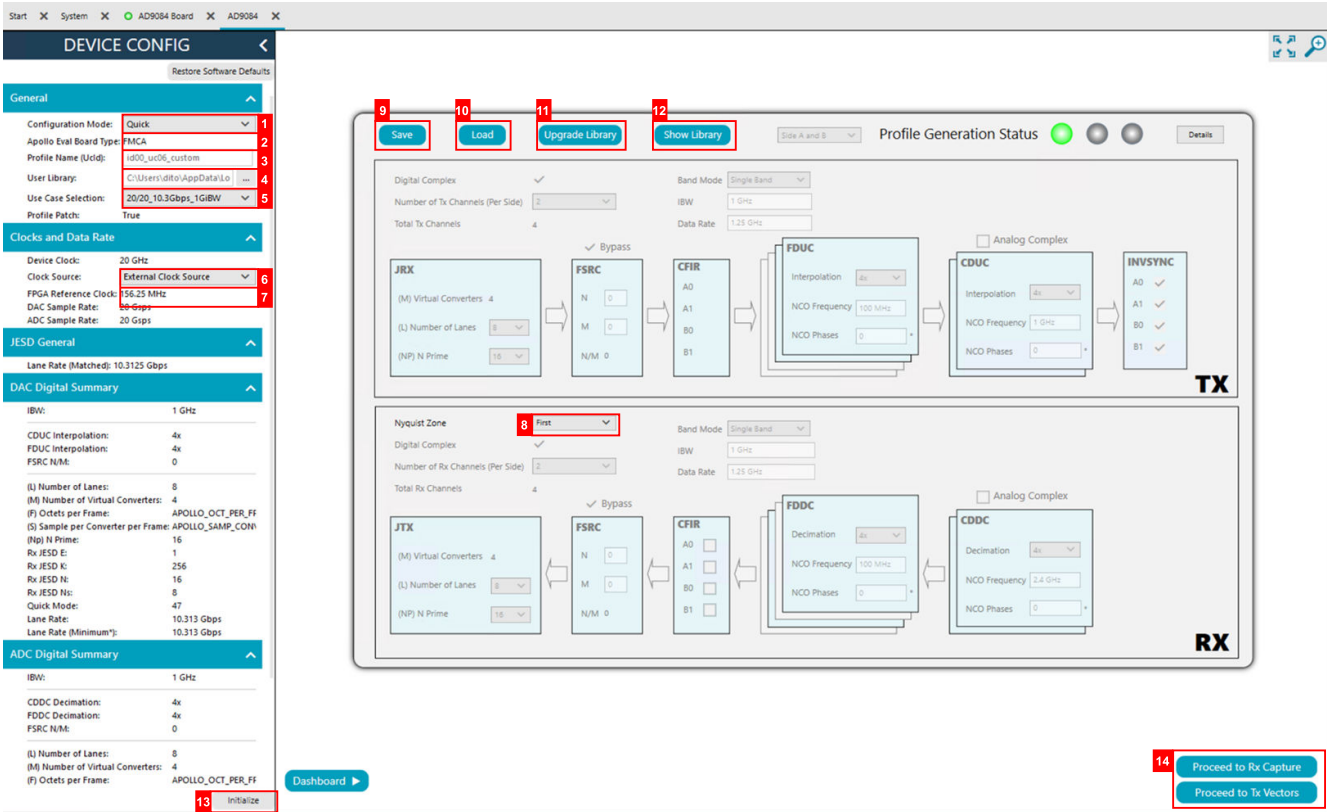
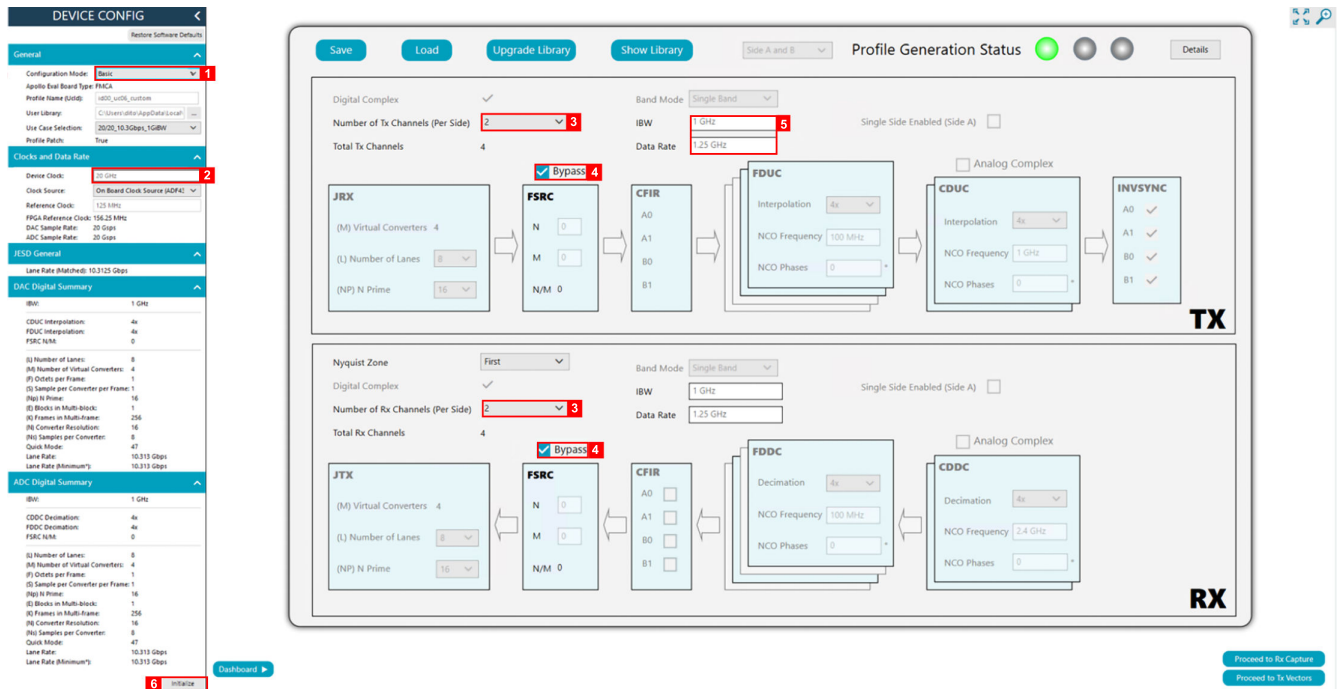
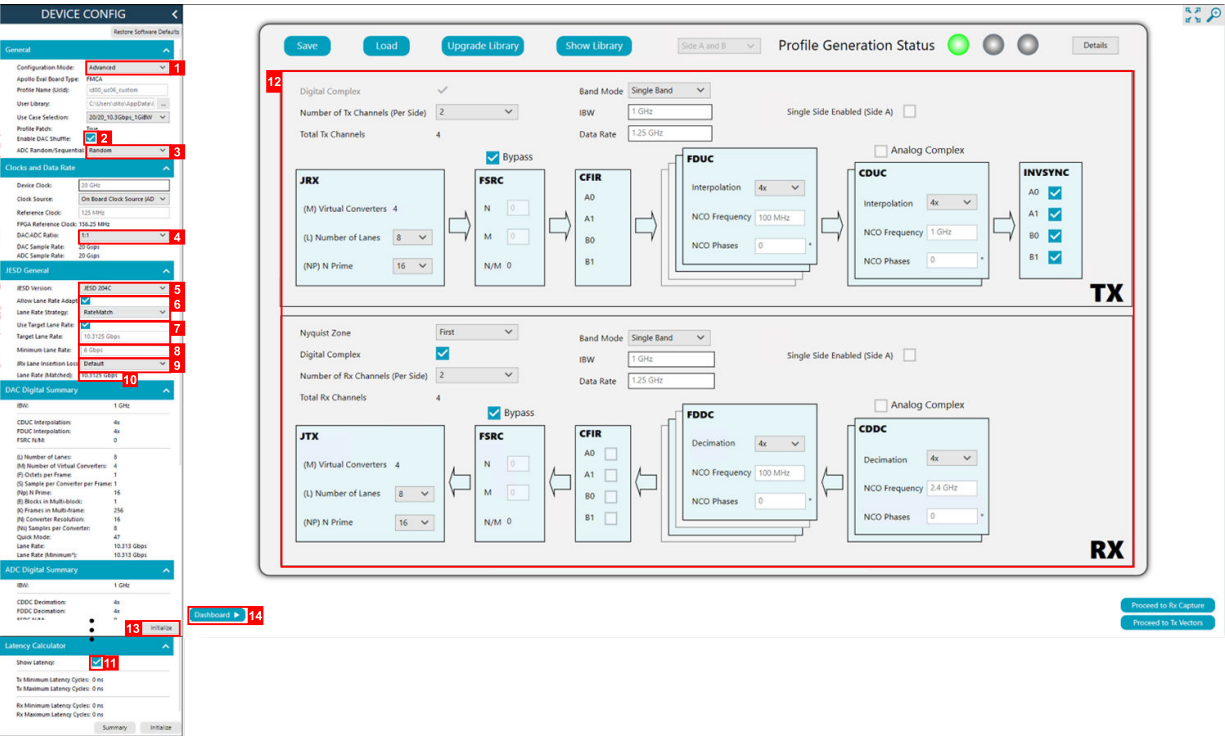

Figure 20. Device Configuration View, Quick Mode
Figure 21. Basic Configuration Mode
Figure 22. Advanced Configuration Mode
The **ACE Software** plug-in **DEVICE CONFIG Profile Generation** user interface for the three available modes is shown in Figure 20, Figure 21, and Figure 22. A device profile contains the parameters and configuration details of an AD9084 use case. The **ACE Software** uses the device profile information to configure the device under test (DUT). The **ACE Software DEVICE CONFIG Profile Generator** can save the device profile as a file (.blueprint, .h, or .json) that can be saved, shared, and loaded back into the **ACE Software** (<filename>.json or <filename>.blueprint) or used by the API (<filename>.h). Different levels of device configuration profile generation are available in the three available configuration modes: quick, basic, and advanced.
The most simple **ACE Software** configuration mode is **Quick** mode, which is selected as shown in Figure 20. In **Quick** mode, the user can quickly make selections to configure the **AD9084** to operate in one of several predetermined use cases, as follows (see Figure 20):
- c. **RateMatch**: **RateMatch** means that one of the lane rate strategies (**FSRC-Invalid-Sample-Insertion/Deletion**, **Sample Repeat** (software support pending), and **Lane Rate Adapt** (if allowed in the **Lane Rate Strategy**)) is used to attempt to match to the **Target Lane Rate**. **FSRC** is enabled in the digital data-path configuration pane (see Figure 22) and is the strategy utilized if **FSRC** is enabled. If **FSRC** is not enabled, **RateMatch** being checked enables the device to choose between **Lane Rate Adapt** (if allowed in the **Lane Rate Strategy**) or sample repeat (software support pending). A warning is issued if the target is not met.
- d. The **Resolution** is the same as the **Np (N')** parameter for the use case running. **Np (N')** is shown in the **DEVICE CONFIG** section and block diagram in Figure 20, Figure 21, and Figure 22.